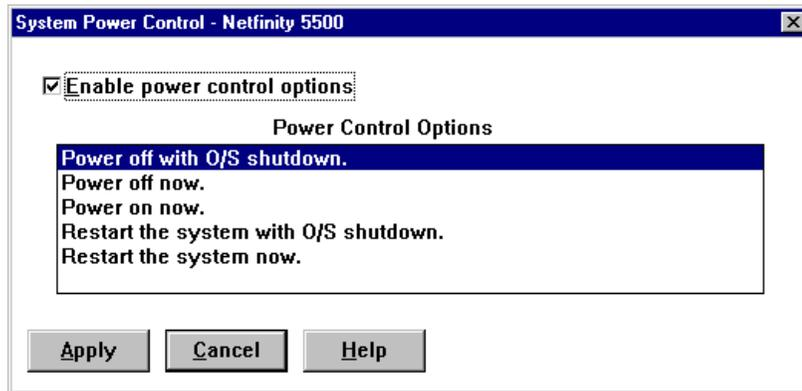

Figure 200. System Power Control on the Netfinity 5500
1. To power down the server, go to the Advanced System Management window and open **System Power Control**. Figure 200 appears.